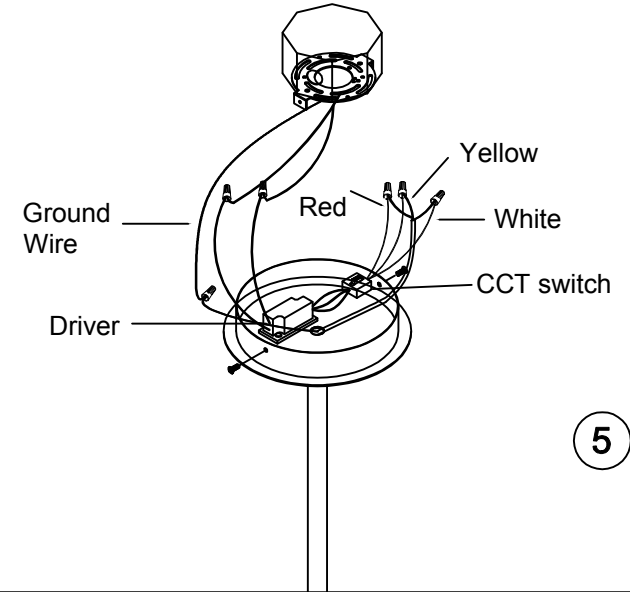

Fig.3
- 5 Make wire connections using wire nuts provided (Fig. 3):